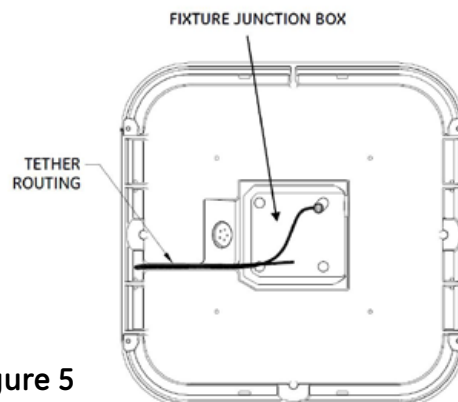
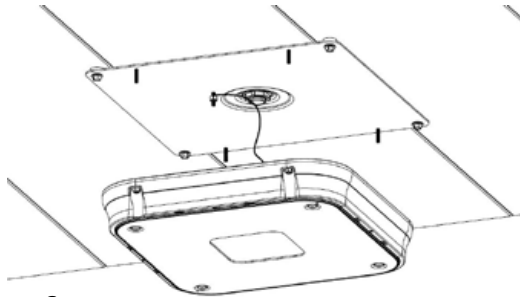

Figure 5
Figure 6
- Install tether (if required) with #10 screws included in fixture package to hole on back of the housing as shown in figure 5. The other end of tether is connected to center threaded stud on backplate using hex nut provided (Figure 6).
- Route tether in drain hole slot when closing fixture to backplate as shown in figure 5.